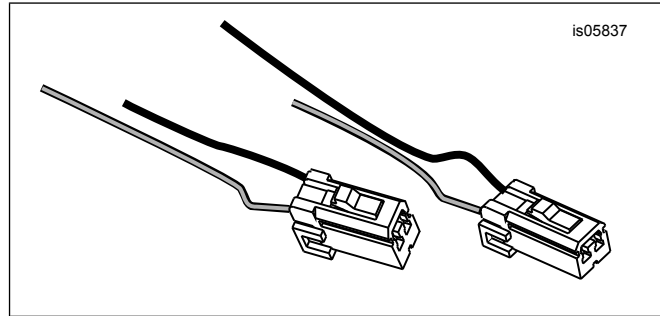

Figure 3. Cut Wire Ends with Connector
The wires must be cut to fit through the new turn signal bar. Remove the black conduit to allow splicing and stagger the cuts as shown in Figure 3 so the conduit will fit over the sealed connectors after the wires are spliced back together.
4. See Figure 3. Cut the black (BK) and brown (BN) wires approximately 10–15 cm (4–6 in) from the right turn signal socket housing [18B], staggered as shown. Cut the black (BK) and violet (V) wires of the left turn signal socket housing [19B] in the same manner. Save the cut wire ends with the connectors.